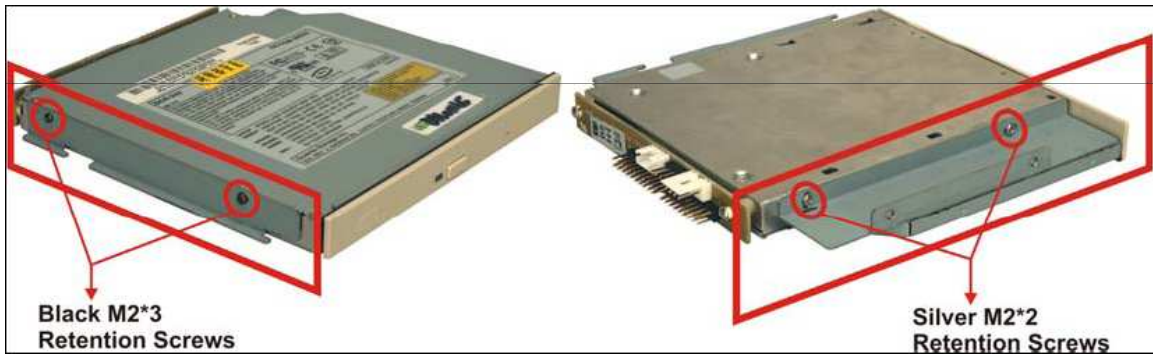

Figure 3-9: CD Drive Blank Plate Assembly
Step 7: Attach the two brackets to a CD drive with the four retention screws in the CD-ROM installation kit. Be sure to orient the brackets properly before attaching them to the CD drive. **Figure 3-9** shows two views of a CD drive with the brackets attached and the proper retention screws to use.
The two screws (black M2*3) shown in the left image of **Figure 3-9** are different from the two screws (silver M2*2) shown in the right. Please secure the correct screws into the CD drive according to the images shown in the **Figure 3-9**.